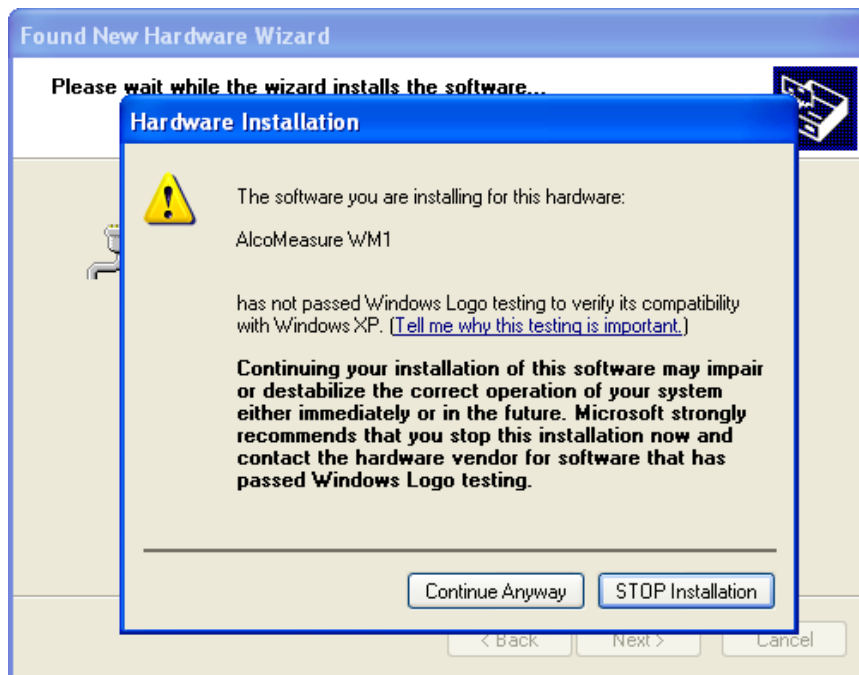

Figure 11 - Windows XP Logo Testing
3. The wizard should now start installing the driver automatically. When the “Hardware Installation” dialog is displayed to warn that the device has not passed Logo testing (Figure 11), press “Continue Anyway”.
10. The wizard should now start installing the driver automatically. When the “Hardware Installation” dialog is displayed to warn that the device has not passed Logo testing (Figure 11), press “Continue Anyway”.